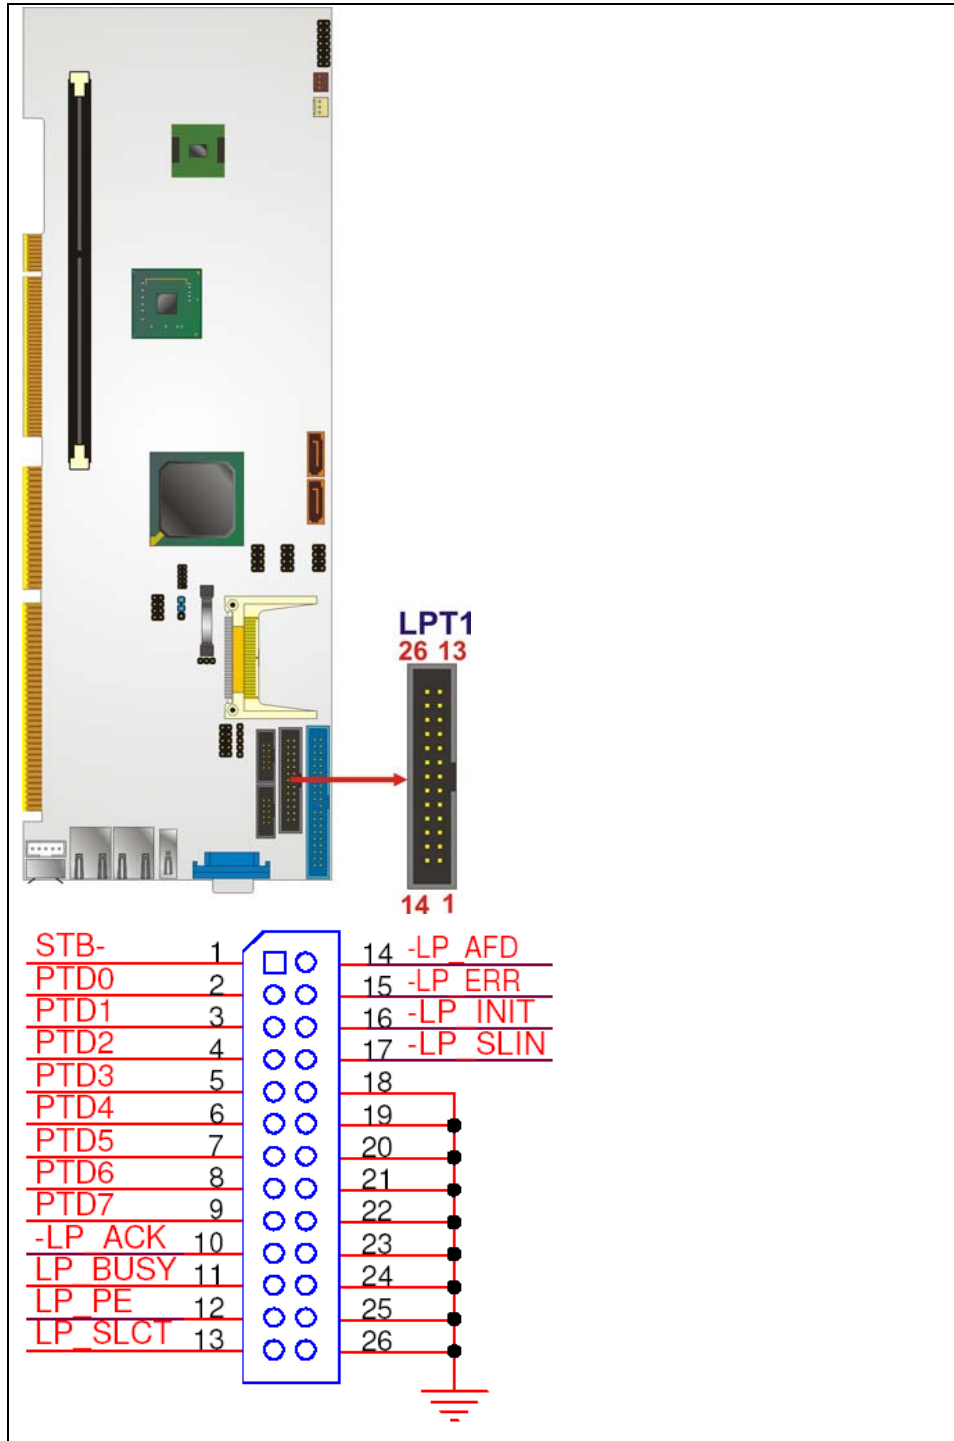

Figure 4-11: Parallel Port Connector Location
- CN Location:** See Figure 4-11